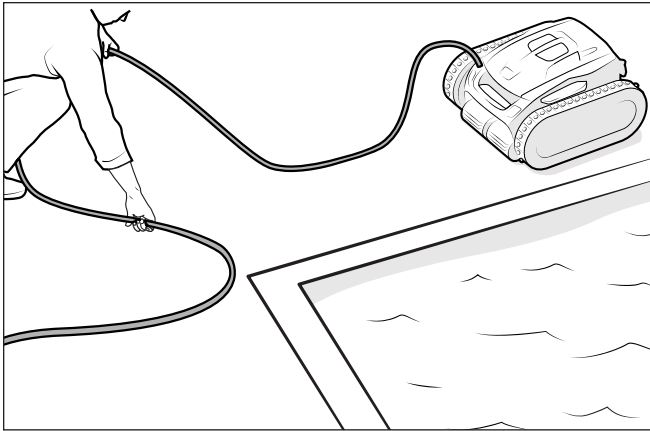

Figure 18. Untangle the Floating cable
2. Starting at the cleaner head, remove all coils and tangles from the cable (Figure 18). Lay the cable in the sun to loosen any tangling memory.